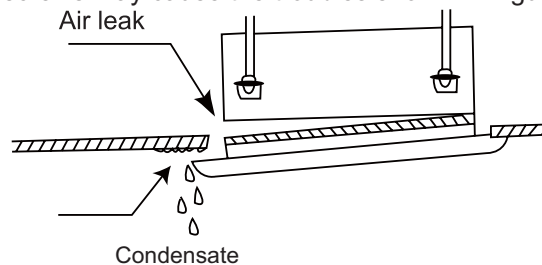

Figure 3-1-46
(7). Improper screwing of the screws may cause the troubles shown in Figure 3-1-46.